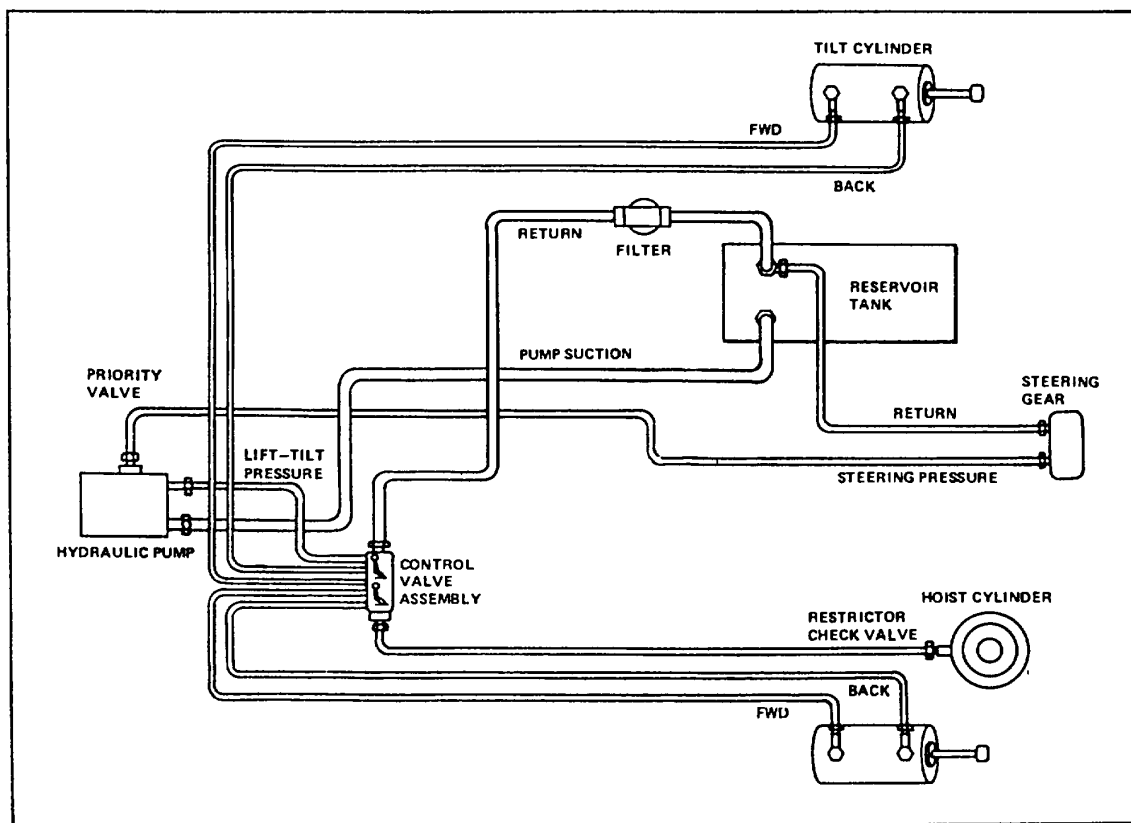

Figure 1-4. Hydraulic System Diagram
**1-18. UPRIGHT CARRIAGE AND FORK ASSEMBLY HYDRAULIC SYSTEM (See figure 1-4).** Using pressure from the engine-driven hydraulic pump, this system controls raising of the forks and fore and aft tilting of the uprights. The control valve assembly permits the operator to direct pressure to the hoist cylinder for raising the forks, or to the tilt cylinders to adjust the angle of the uprights and forks.